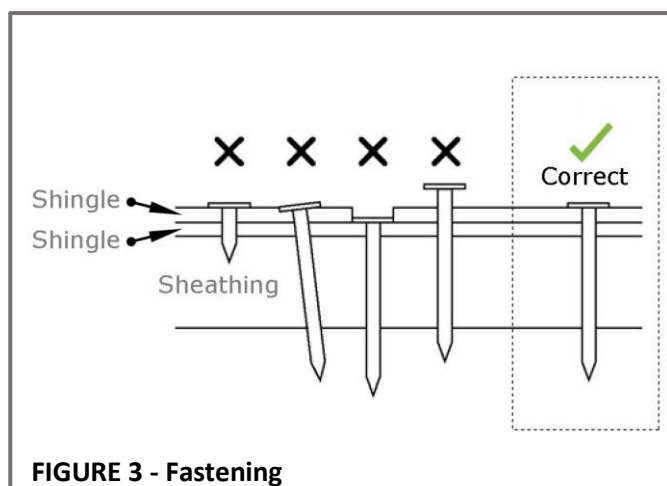

FIGURE 3 - Fastening
- All nails must be driven straight with heads flush to the shingle surface, and not cutting into the shingle. See **Figure 3**.